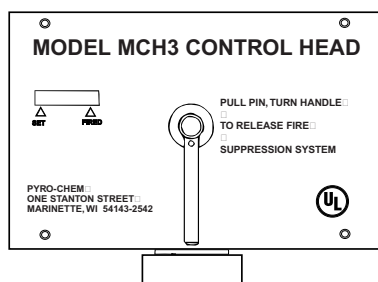

Figure 2-4. Mechanical Control Head.
The Model MCH3 mechanical control head is a fully mechanical control head which can be connected to the PCL-300/460/600 cylinder valve. This control head will support a fusible link detection system, a remote mechanical pull station (Model RPS-M), and a mechanical or electric gas shut-off valve. A micro electric switch (Model MS-SPDT, MS-DPDT, MS-3PDT, or MS-4PDT) can be ordered separately and field installed. It is equipped with a local manual control handle that allows for mechanical system actuation. Operation of the local manual control requires removing the pull pin and rotating the handle clockwise. The Model MCH3 control head can actuate a maximum of five (5) cylinders with the 16 gram CO₂ cartridge. See **Figure 2-4**.